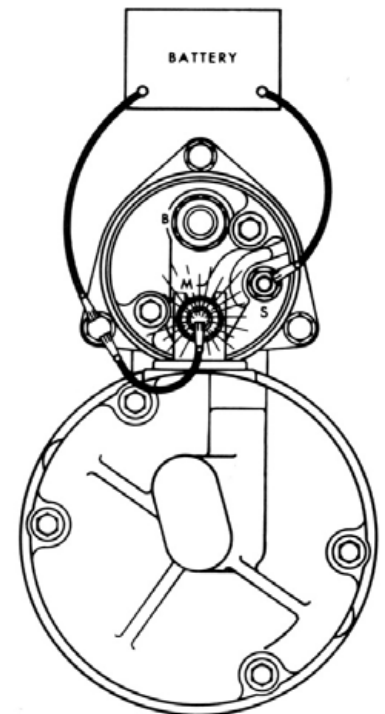

Figure 13—Connections for checking pinion clearance.
2. Connect battery to "S" terminal and to a clean metal ground on solenoid case (Figure 13).
3. **Momentarily** flash a jumper lead from ground to terminal "M" (Figure 13). The drive will now shift into cranking position and remain so until the battery is disconnected.